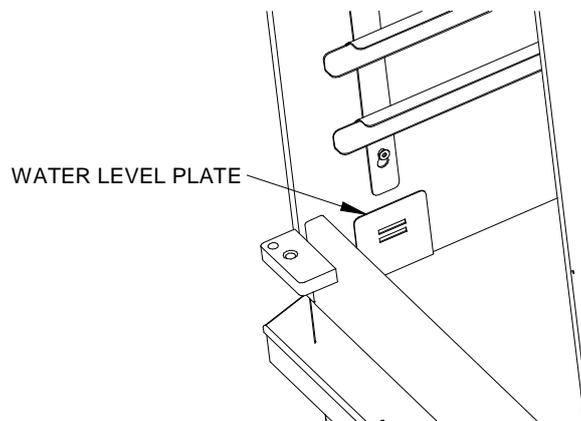

Fig. 2
- Check water level is between indicator marks (see Fig.2).